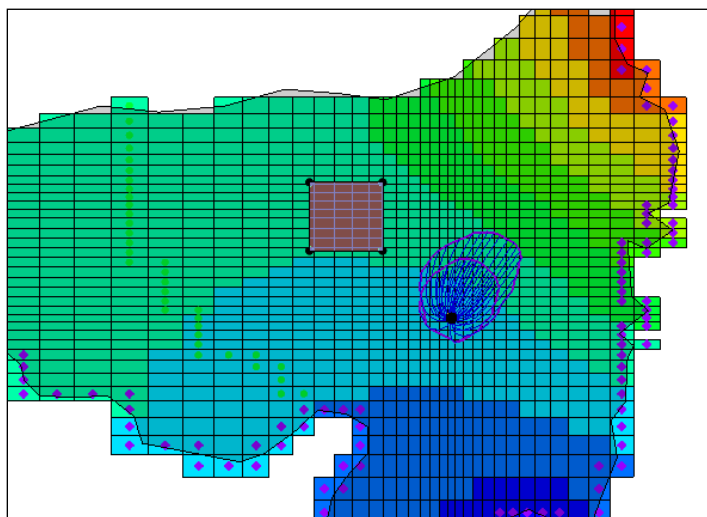

Figure 6 Landfill polygon
7. Using the **Select Polygons**  tool, select the landfill polygon (Figure 6).